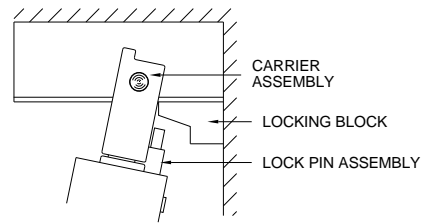

Fig. 3-2
1. Reference the gate drawing for proper placement of channels and lock positions. Slide the chain carriers with attached chain and the channel assemblies onto the track. Make certain that the closing channel carrier has the lock pin assembly facing the closing channel stop as shown in Fig. 3-2. If any gate height changes are required, make these modifications at the top.
1. Engage the closing channel locking pin into the locking block mounted on the track. (Fig 3-2)